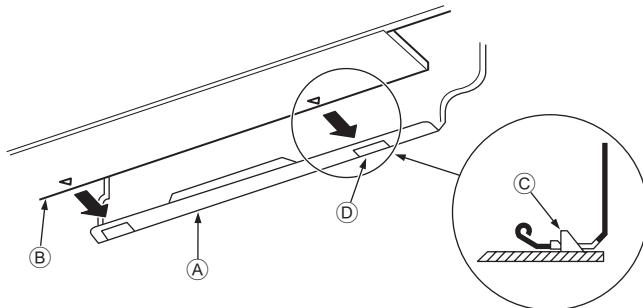

Fig. 3-10
3. While inserting the refrigerant piping and drain hose into the wall penetration hole (penetration sleeve), hang the top of the indoor unit to the mount board ①.
5. Fasten by pushing the bottom part of the indoor unit onto the mount board ①. (Fig. 3-10)
- * Check that the knobs on the bottom of the indoor unit are securely hooked into the mount board ①.
- Ⓐ Mount board ①